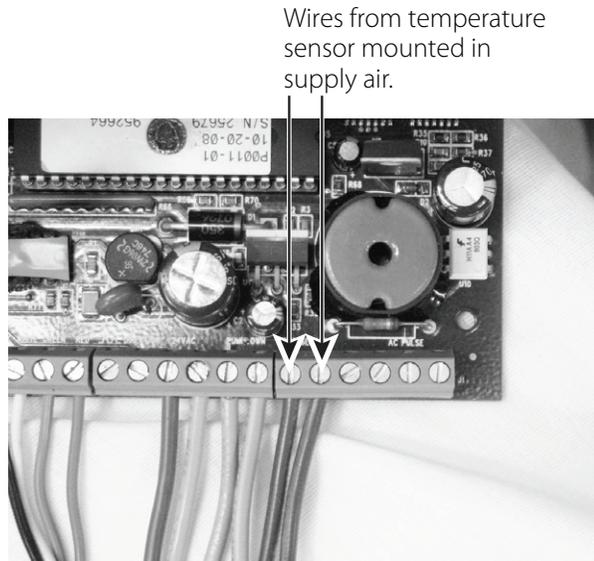

Figure 7 - Temperature Sensor Wires
2. Mount the sub-base on a level plane. Connect the thermostat wire to the unit terminal board and the thermostat as shown in Figure 7.
1. Make sure the two sensor wires are connected to the TEMP SENSOR terminals on the board. See Figure 7.